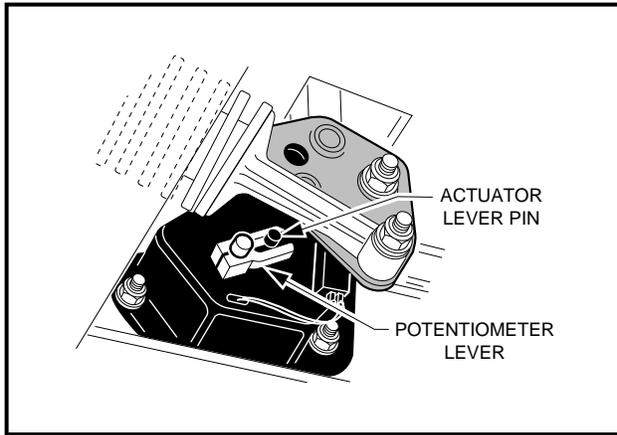

Figure 12-10 Potentiometer Housing
- MAKE SURE THE ACTUATOR LEVER PIN IS INSERTED INTO THE POTENTIOMETER LEVER (**SEE FIGURE 12-10, PAGE 12-15**).